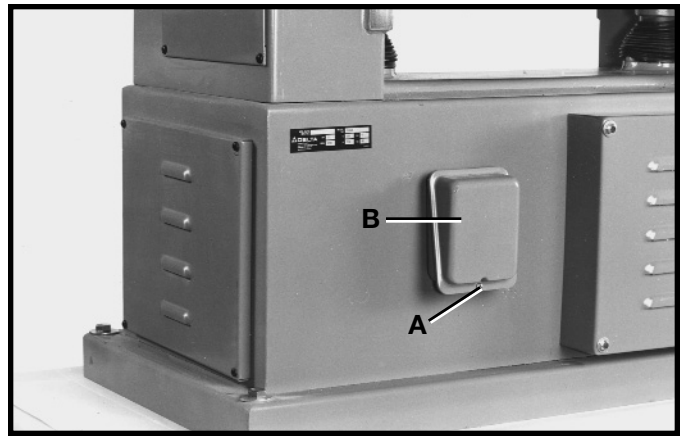
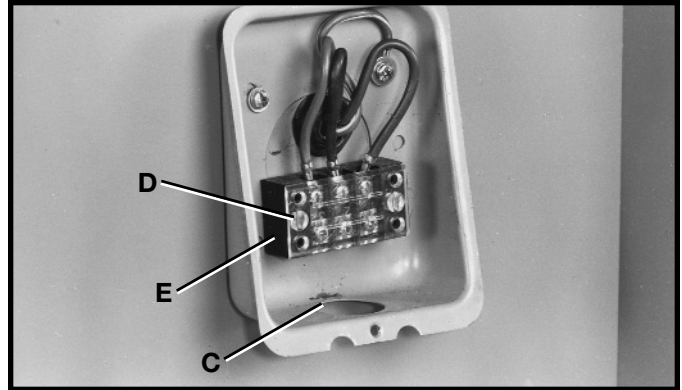

Fig. 10
Fig. 11
1. Loosen screw (A) Fig. 10, and remove cover (B) from terminal box located at the rear of the machine. Bring power line up through hole (C) Fig. 11, in the terminal box. **NOTE:** Strain relief and power cord clamp are not supplied with the machine. Remove plastic shield (D) Fig. 11, from terminal strip (E).